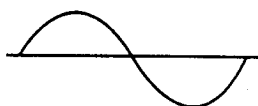

Figure 10 39.5MHz ADJUSTMENT
B) Adjust the L604 (39.5MHz) coil. (Refer to Fig. 10)